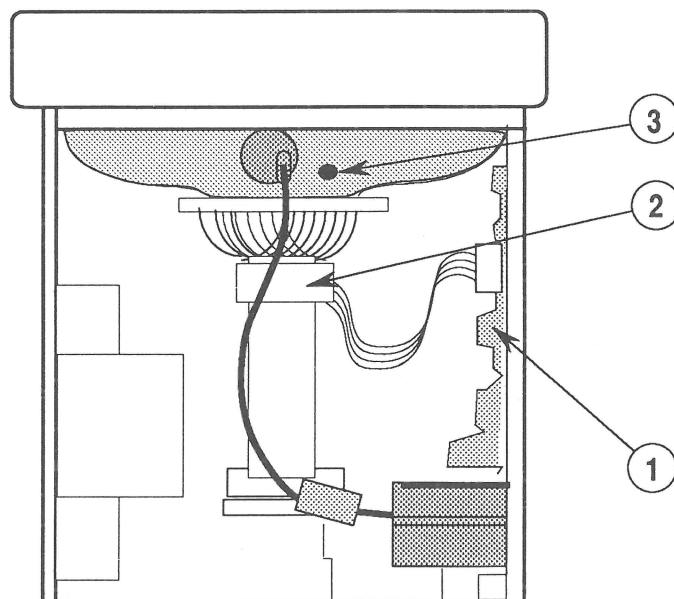

FIGURE 18
WARNING: The main deflection board (Figure 18, #1) contains high-voltage components. To prevent touching high-voltage areas on the main deflection board, cover the board with plastic packaging paper before performing the adjustment procedure. Make sure transistor Q711 is covered.
3. Cover the main deflection board (Figure 18, #1) with plastic packaging paper. To keep the packaging paper in place, tape it to the plastic on top of the yoke assembly (Figure 18, #2).
5. If the upper-left corner of the screen is distorted, place the weakest (green) magnet (Figure 18, #3) on the back of the CRT to the right of the anode cap as shown in Figure 18. **While looking at the screen display, both rotate the magnet and move the magnet from side-to-side and up-and-down until you get the least distortion.** (Use trial-and-error to locate the best position for the magnet, which could be anywhere between the top outside corner of the CRT to just below the anode cap near the center of the CRT.)